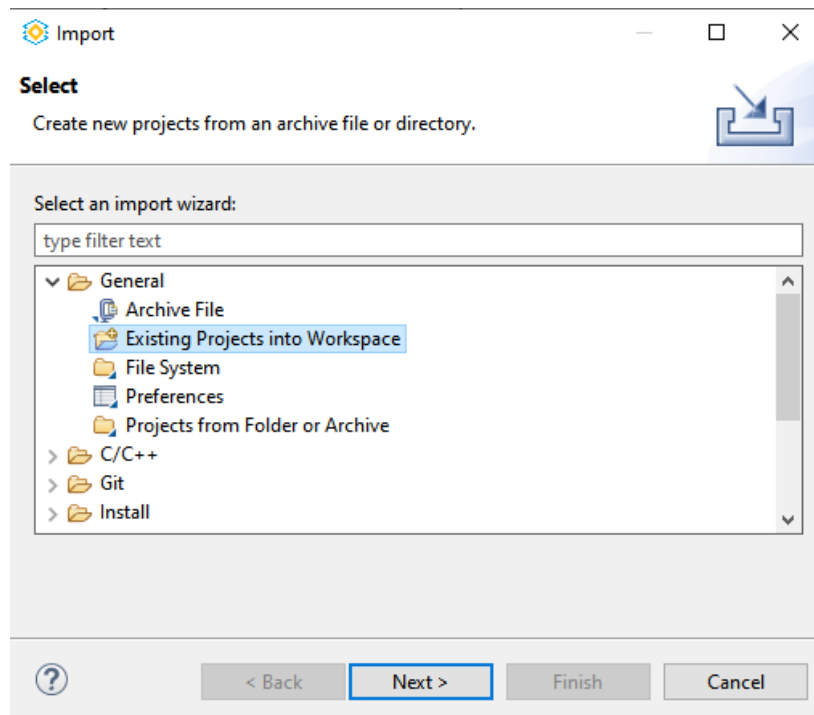

Figure C.16. Existing Project into Workspace
4. Select Existing Project in Workspace from General list and click on next as shown in Figure C.16.